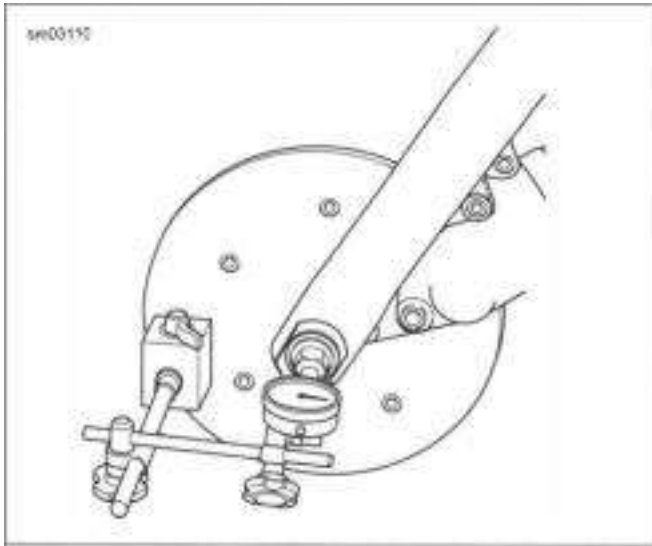

Figure 3-20. Measuring Lateral End Play (Front Wheel) (Typical)
- a. See Figure 3-20. Mount a magnetic base dial indicator to the brake disc. Set the indicator contact point on the end of the axle.